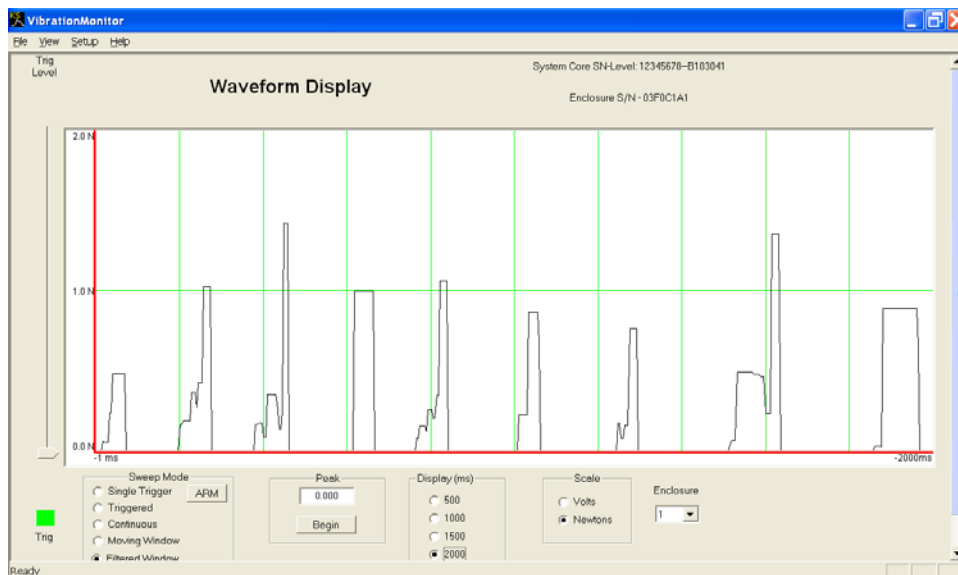

Figure 2-12. Filtered Window Waveform Display
4. Now change the sweep mode to **Filtered Window**. The display will appear similar to Figure 2-12.